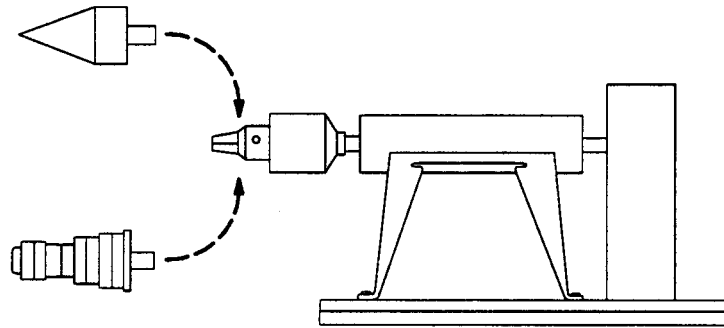

Figure 15 - Rotary Chuck Sander
5.3.14 Rotary Chuck Sander (see Figure 15)